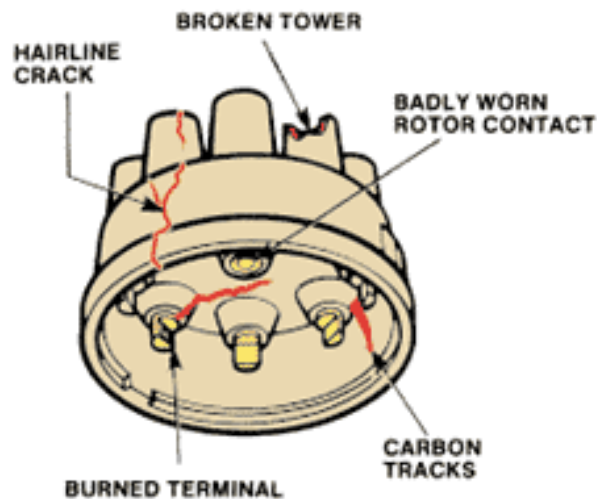

Fig.12
- ✓ Carbon tracks on the inside or outside of the cap. They may occur because of a crack which, at some stage, started to conduct the high voltage and formed a carbon path (Fig. 12 on the next page).